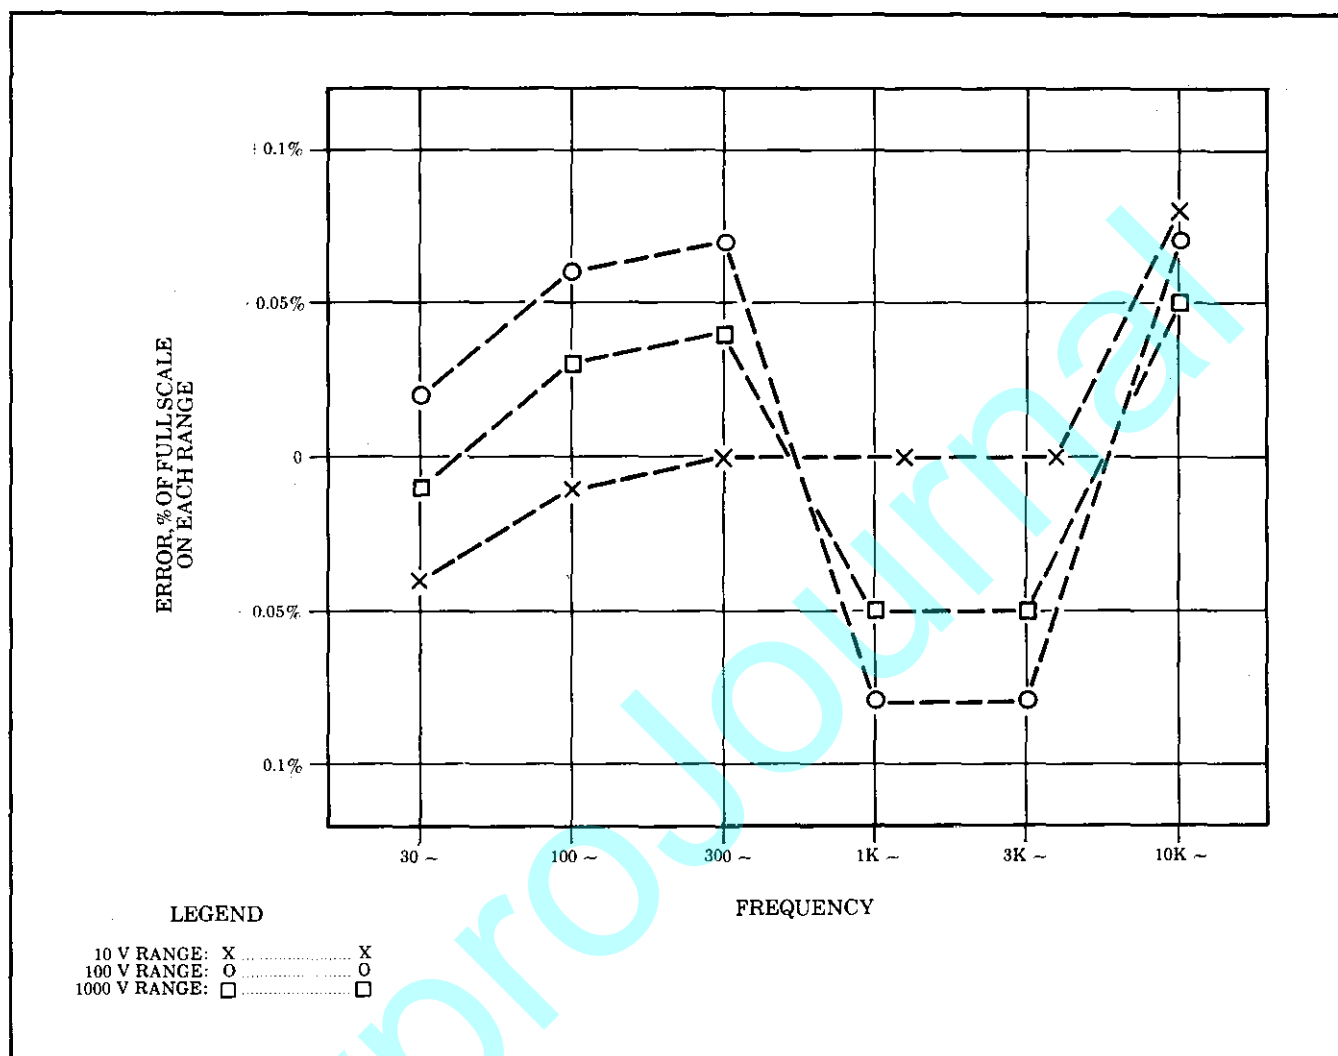

Figure 4-2. Typical Plot of Error vs Frequency after Calibration.
11. The time required for calibration will be much shorter if the readings obtained after each step given in Section 4.3 are plotted on graph paper. Then, the effect of each control will be readily apparent. After reviewing the graph, the controls can be more satisfactorily adjusted to bring the converter into tolerance by, for example, causing an intentional error in one direction at a certain frequency so as to cause the curve of frequency versus error to come within tolerance at other frequencies. Another reason why the plotted readings are helpful is that frequency compensation controls have a much greater effect at higher frequencies than at lower frequencies. Figure 4-2 plots error versus frequency for a typical converter after calibration.